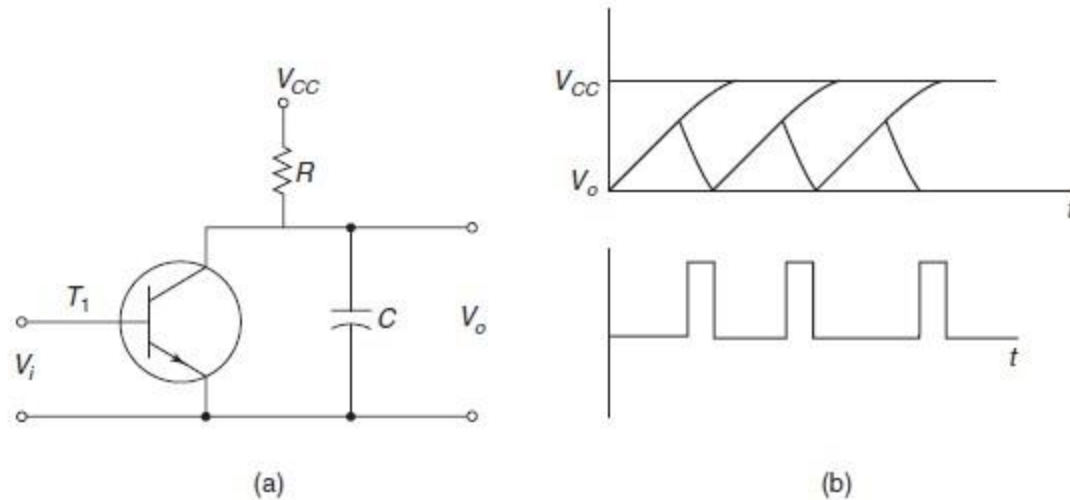

Figure 14-7: (a) simple saw-tooth generator (b) associated waveforms.
- The circuit shown in Fig. 14-7(a) is a simple sweep circuit, in which the capacitor C charges through the resistor R .
- The capacitor discharges periodically through the transistor T_1 , which causes the waveform shown in Fig. 14-7(b) to appear across the capacitor.